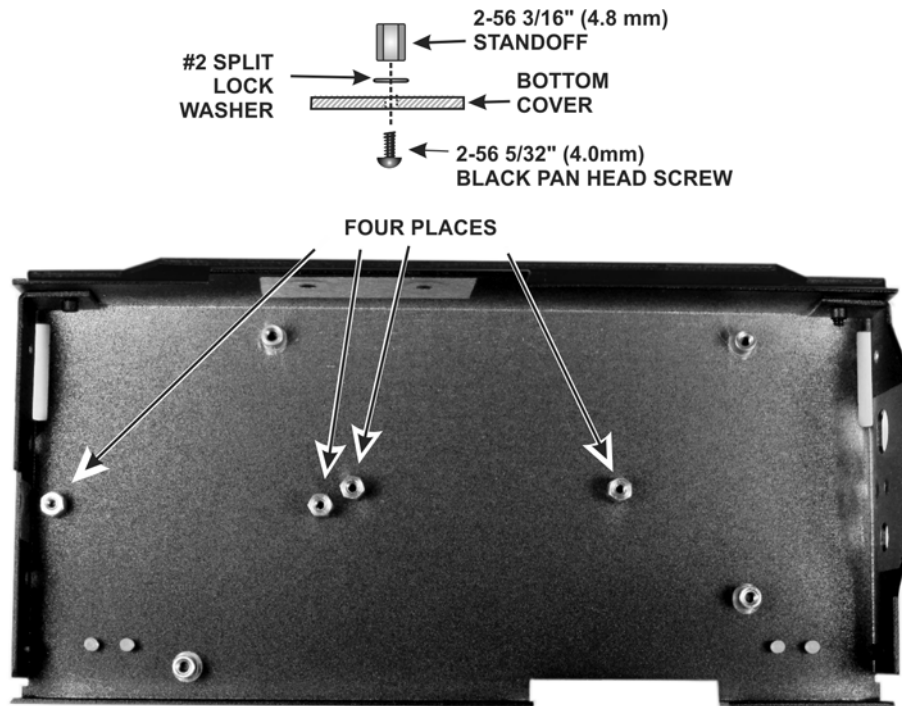

Figure 33. Installing 2-56 (Smaller) Standoffs in the Bottom Cover.
- ☐ Install the four #2 (smaller) standoffs in the bottom cover as shown in Figure 33. **Place the lock washers between the standoffs and the cover as shown to provide proper clearance for the RF board when it is installed. Leaving the washers out may result in damaged components on the RF board.**